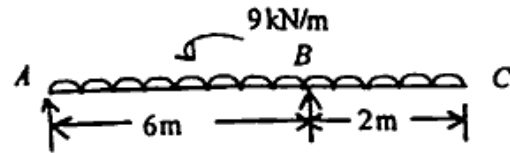

Figure 4
5. Draw SFD and BMD of the overhanging beam as shown in Figure 4 and locate point of contraflexure if any. 10